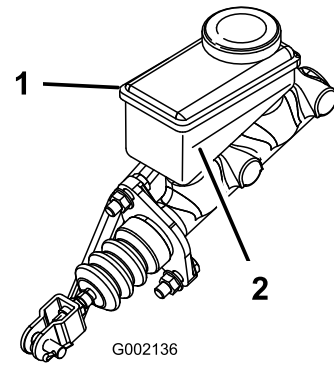

Figure 51
3. Look at the outline of the fluid level at the side of the reservoir (Figure 51).
- B. Add DOT 3 brake fluid to the reservoir until the fluid level is above the Minimum line (Figure 51).